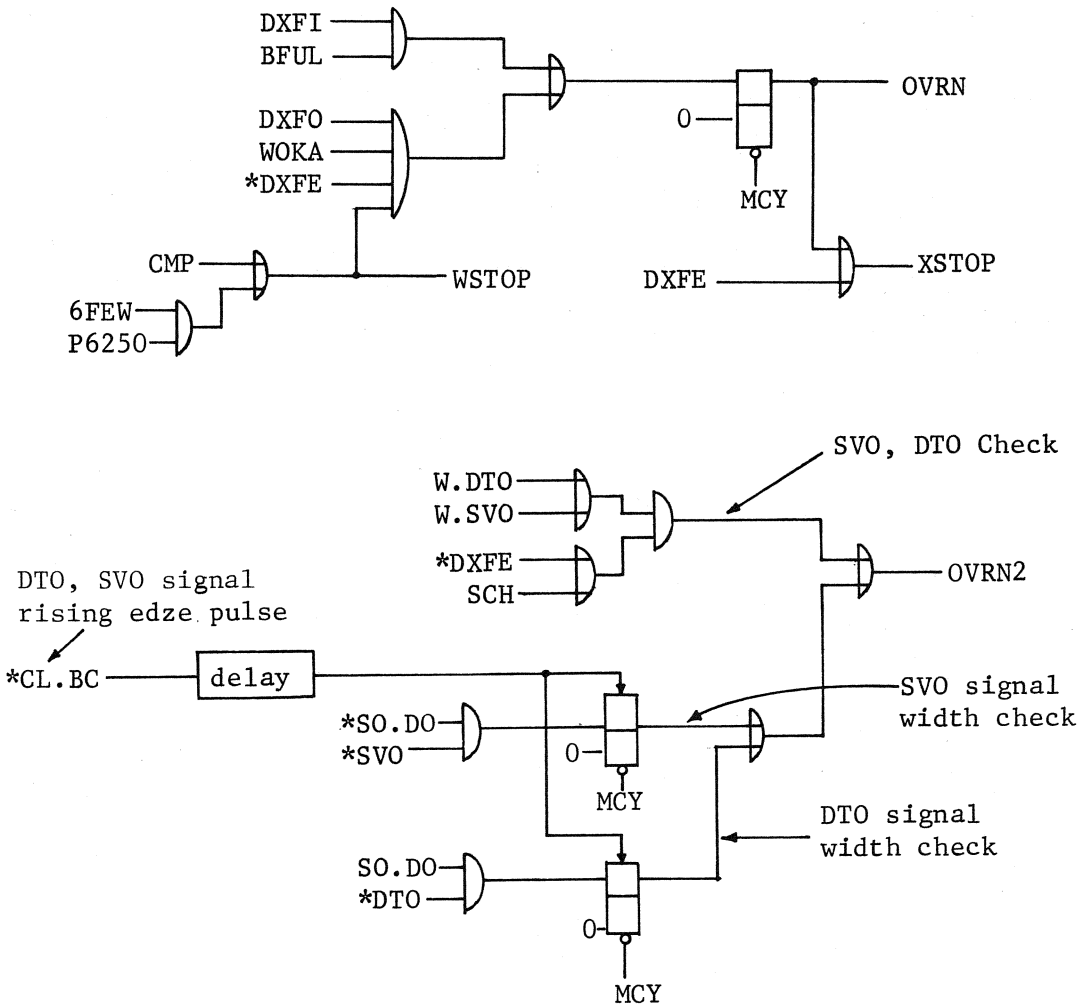

Figure 4.30 Overrun detection circuit
Overflow detection circuit is illustrated in Figure 4.30. The OVRN signal is an overflow signal detected with reference to the data transfer buffer status (refer to section 4.5.2 (16) OVRN signal). The OVRN2 signal is a check signal in the offset interlock mode. Overflow error occurs when a microprogram detects the basic signal upon completion of read or write operations.